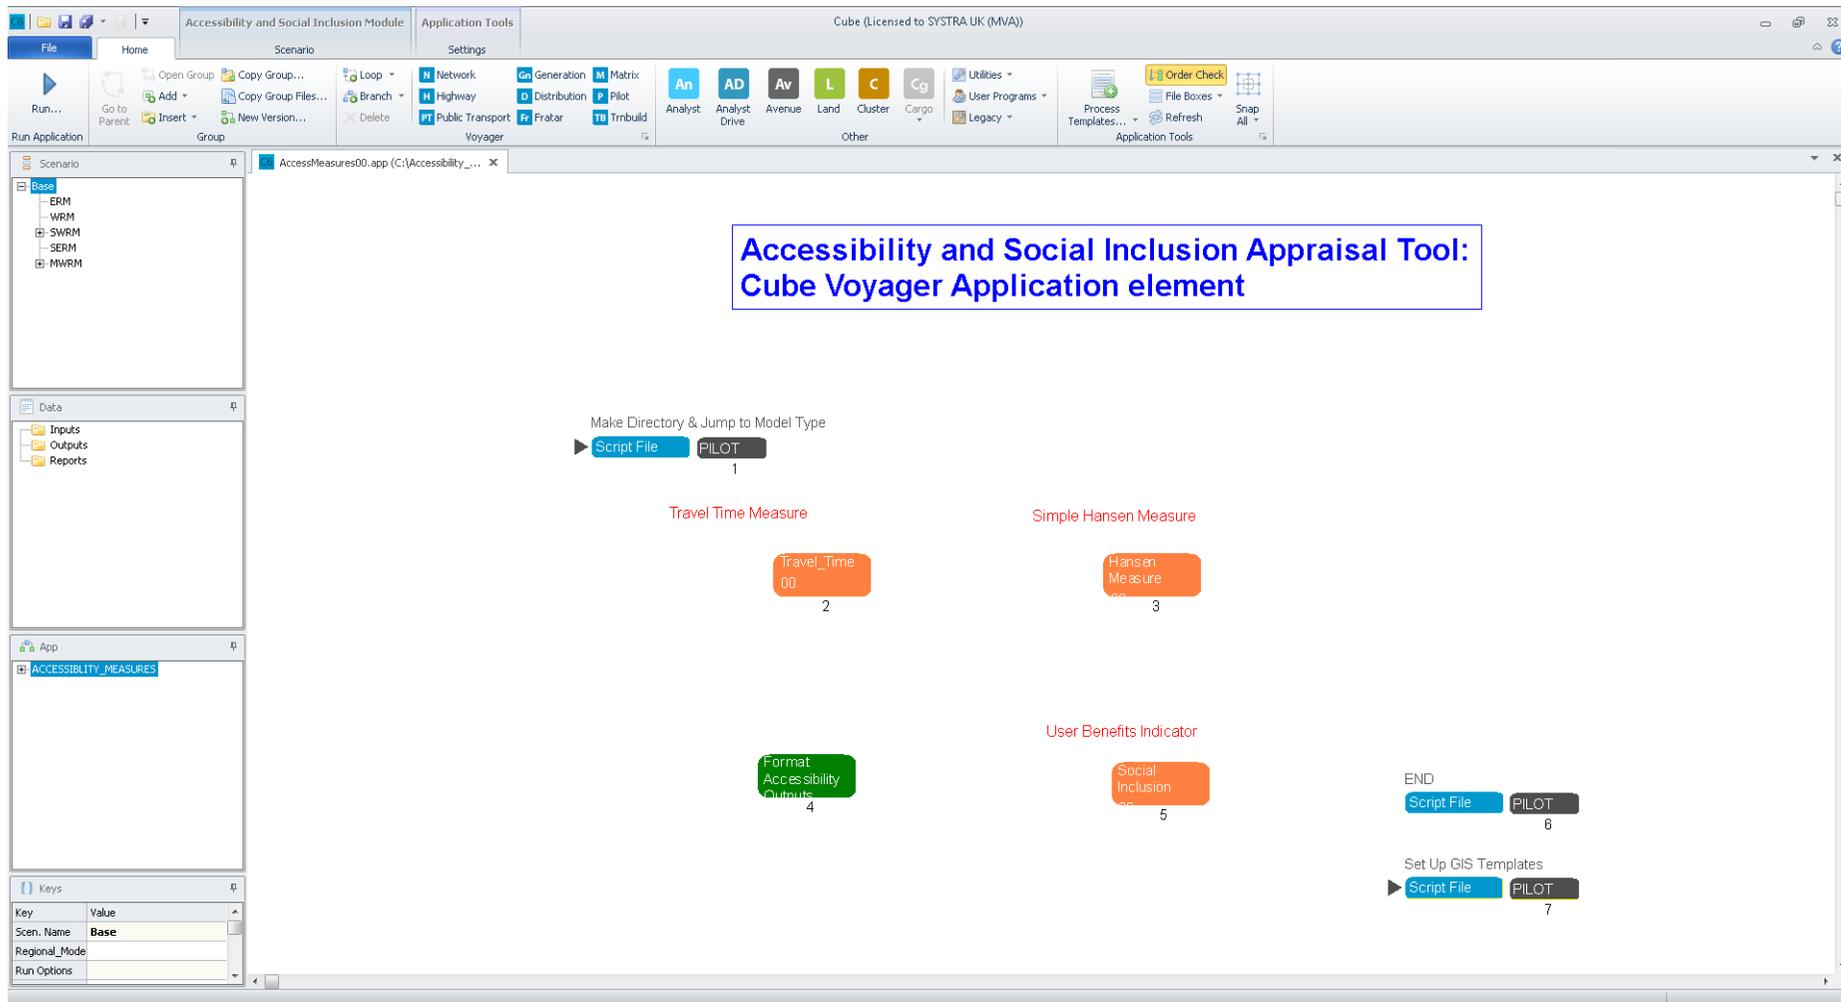

Figure 2.2 Cube process
There are seven sub-application components (see Figure 2.2) that run depending on the key values that are entered within the main user interface of the Cube Voyager catalog; these sub-applications are:
Figure 2.2 shows the main Cube view which is seen by the user.
- 3) On the main user interface (as shown in Figure 2.2), within the columns on the left-hand side, in the Scenario section, right click on the appropriate regional model, and click “Add Child” (Figure 3.3)